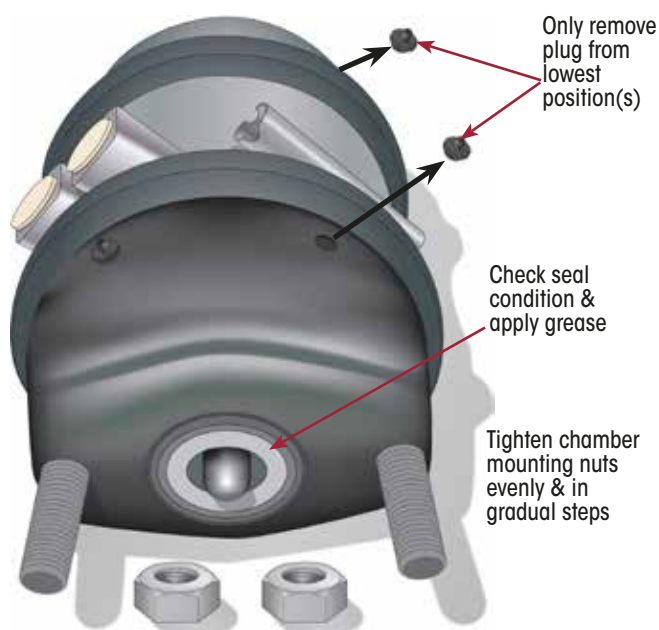

Figure 127: Disc Brake Chamber Installation
1. Ensure that only the lowest drain hole in the brake chamber has the rubber plug removed to minimise ingress of any contaminants. On installation, remove the lower housing plug from each chamber. This means that if it is a dual park/emergency brake chamber then two plugs will need to be removed. Failure to remove these plugs will make the calliper release slowly, which will cause brake drag and excessive pad wear. Refer Figure 127.
3. Ensure the brake chamber to calliper seal is in good condition. Apply a smear of grease to this seal, before fitting chamber, to help protect calliper against contaminants. Refer Figure 127.
5. Torque the brake chamber nuts evenly and in steps to ensure correct mounting and engagement of piston rod and ball cup. Refer Figure 127.